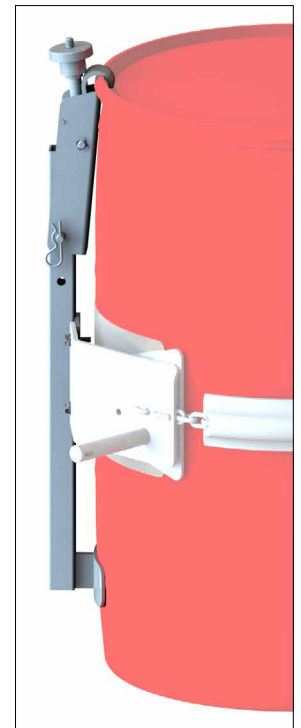

Figure 2.2
2. **Stainless Steel Top Rim Clamp Kit # 4560BSS-P** to handle a RIMMED plastic drum (figure 2.2). Install the Top Rim Clamp Kit to handle a RIMMED plastic, steel or fiber drum with suitable top rim.